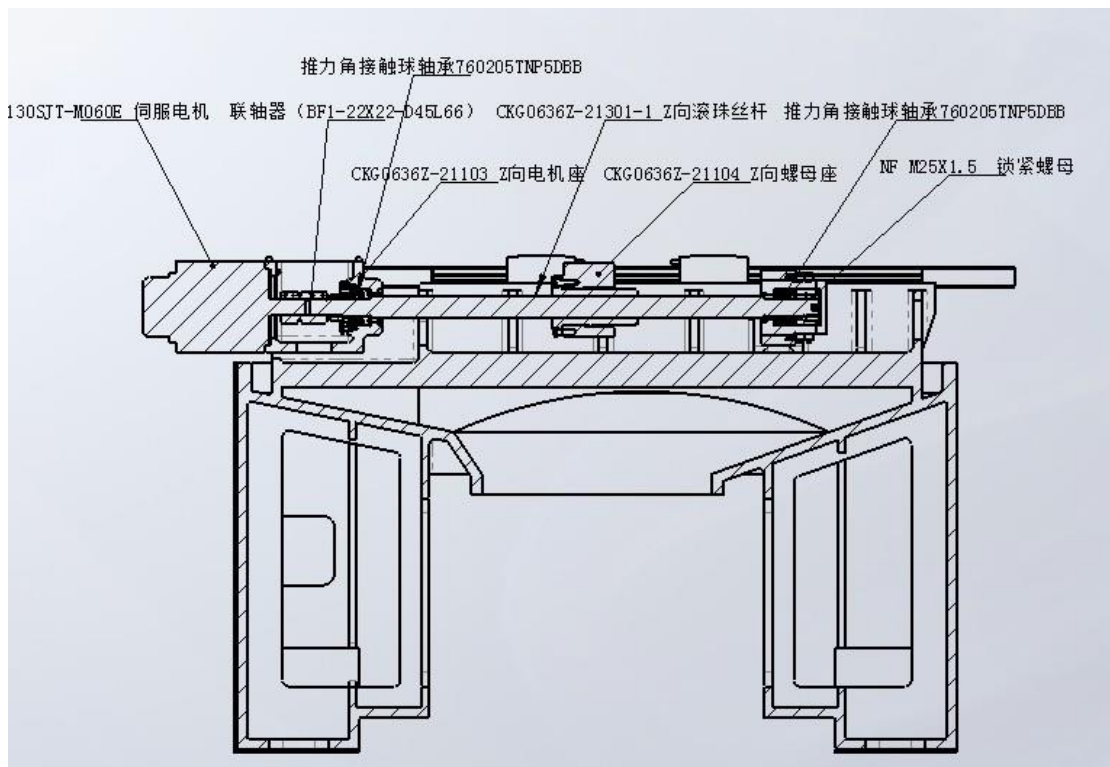

Figure 2: longitudinal drive structure of bed and plate.
3.1.2 Longitudinal drive of bed and supporting plate (see figure 2)